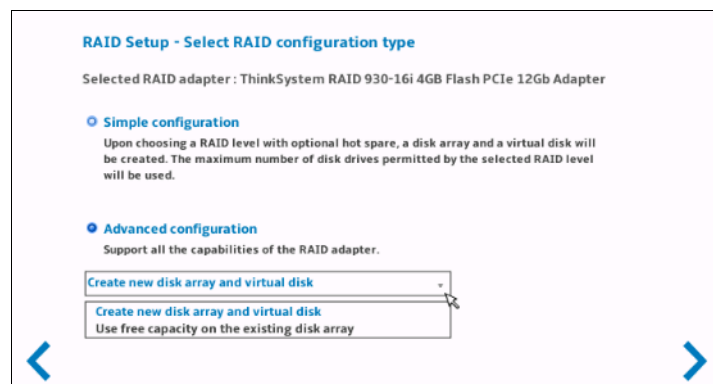

Figure 5-17
7. You are now presented with the Select RAID configuration type panel, Figure 5-17.